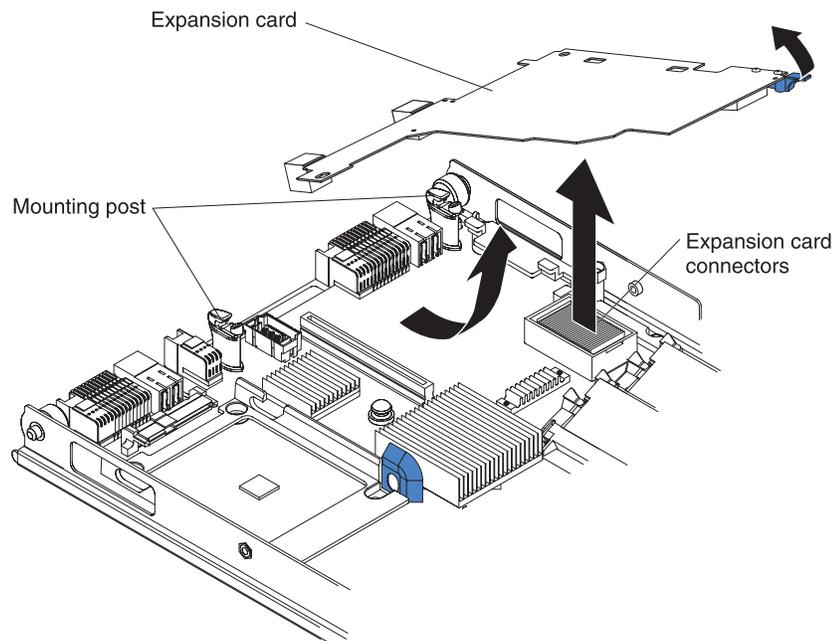

Figure 2. Removing the QLogic Ethernet and 8 Gb Fibre Channel Expansion Card (CFFh) from a blade server
6. Remove the expansion card, as shown in Figure 2: